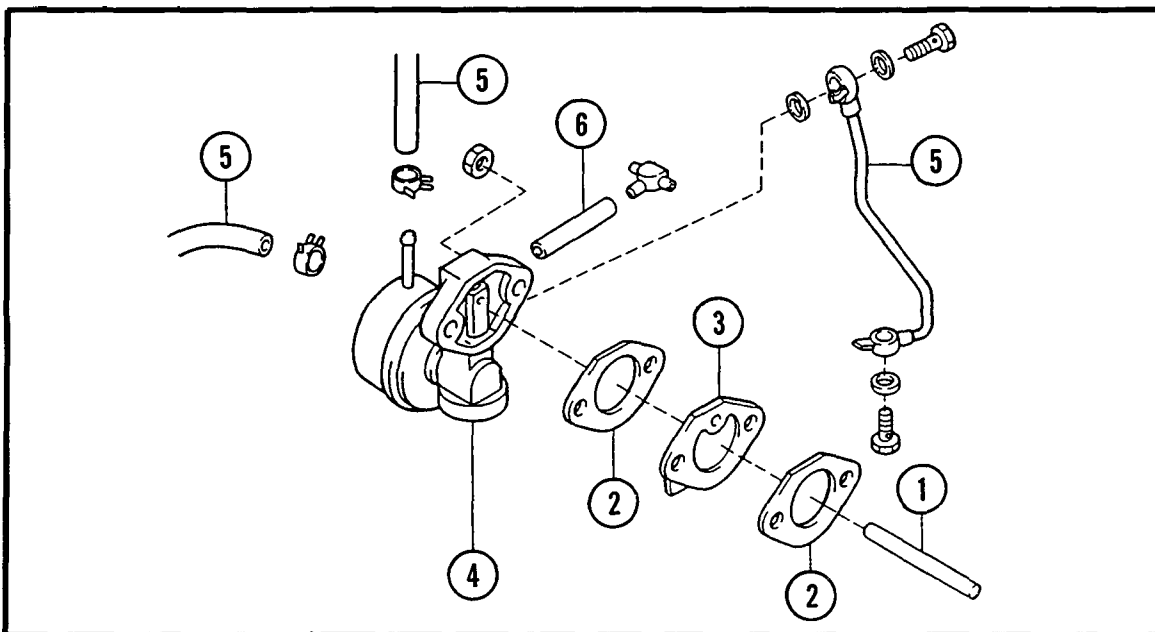

Figure 8.
1. Install the parts in the numerical order shown in Figure 8. Tighten mounting bolts 11 to 17 ft. lbs. (15 to 23 N·m) torque.